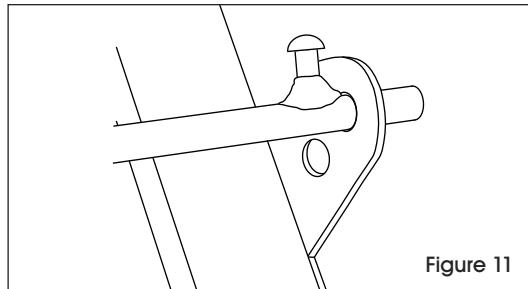

Figure 11
15. Follow steps 10-13 to install the lock bar, except lock bar goes into the top hole of bracket. (See Figure 11)